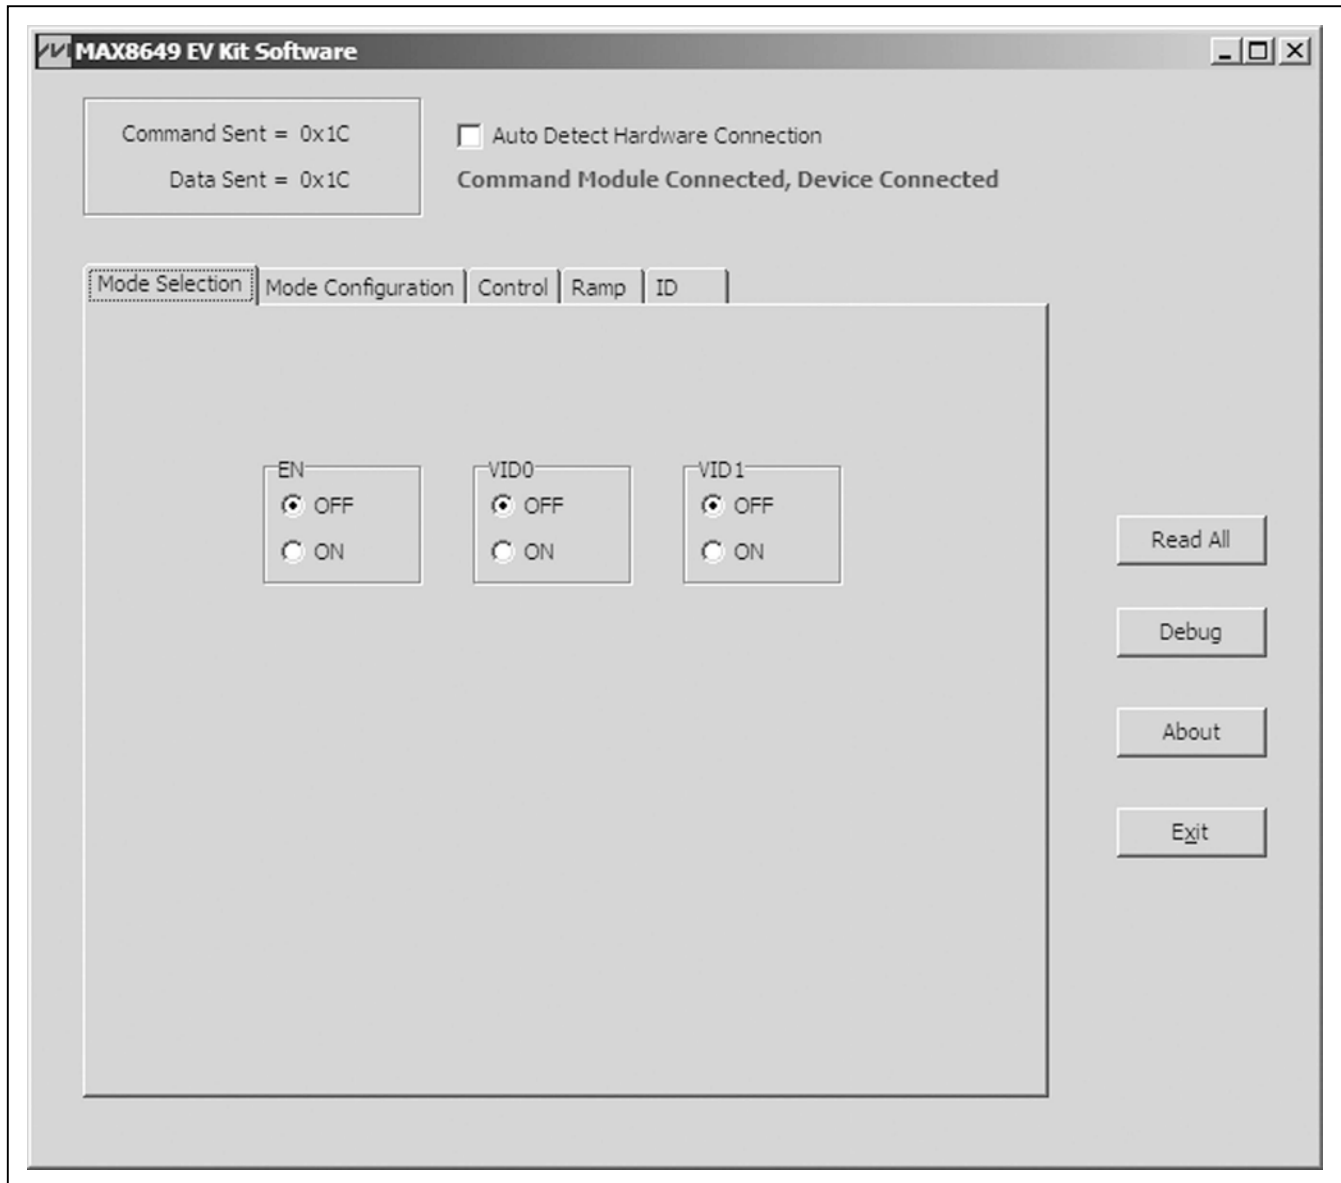
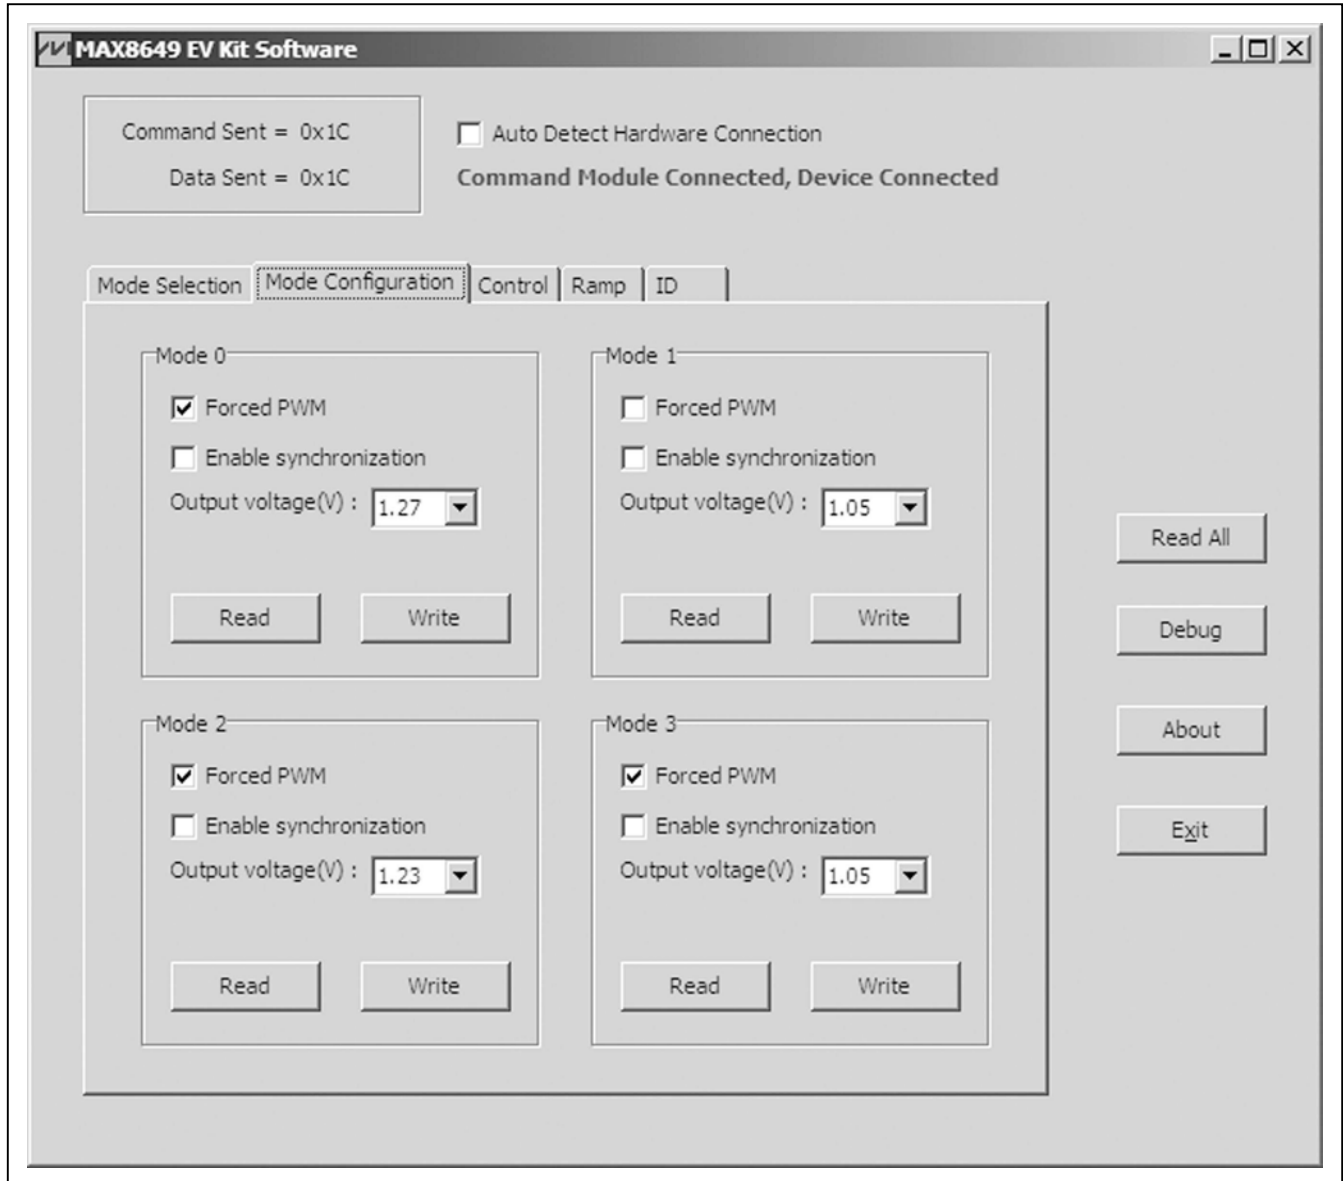
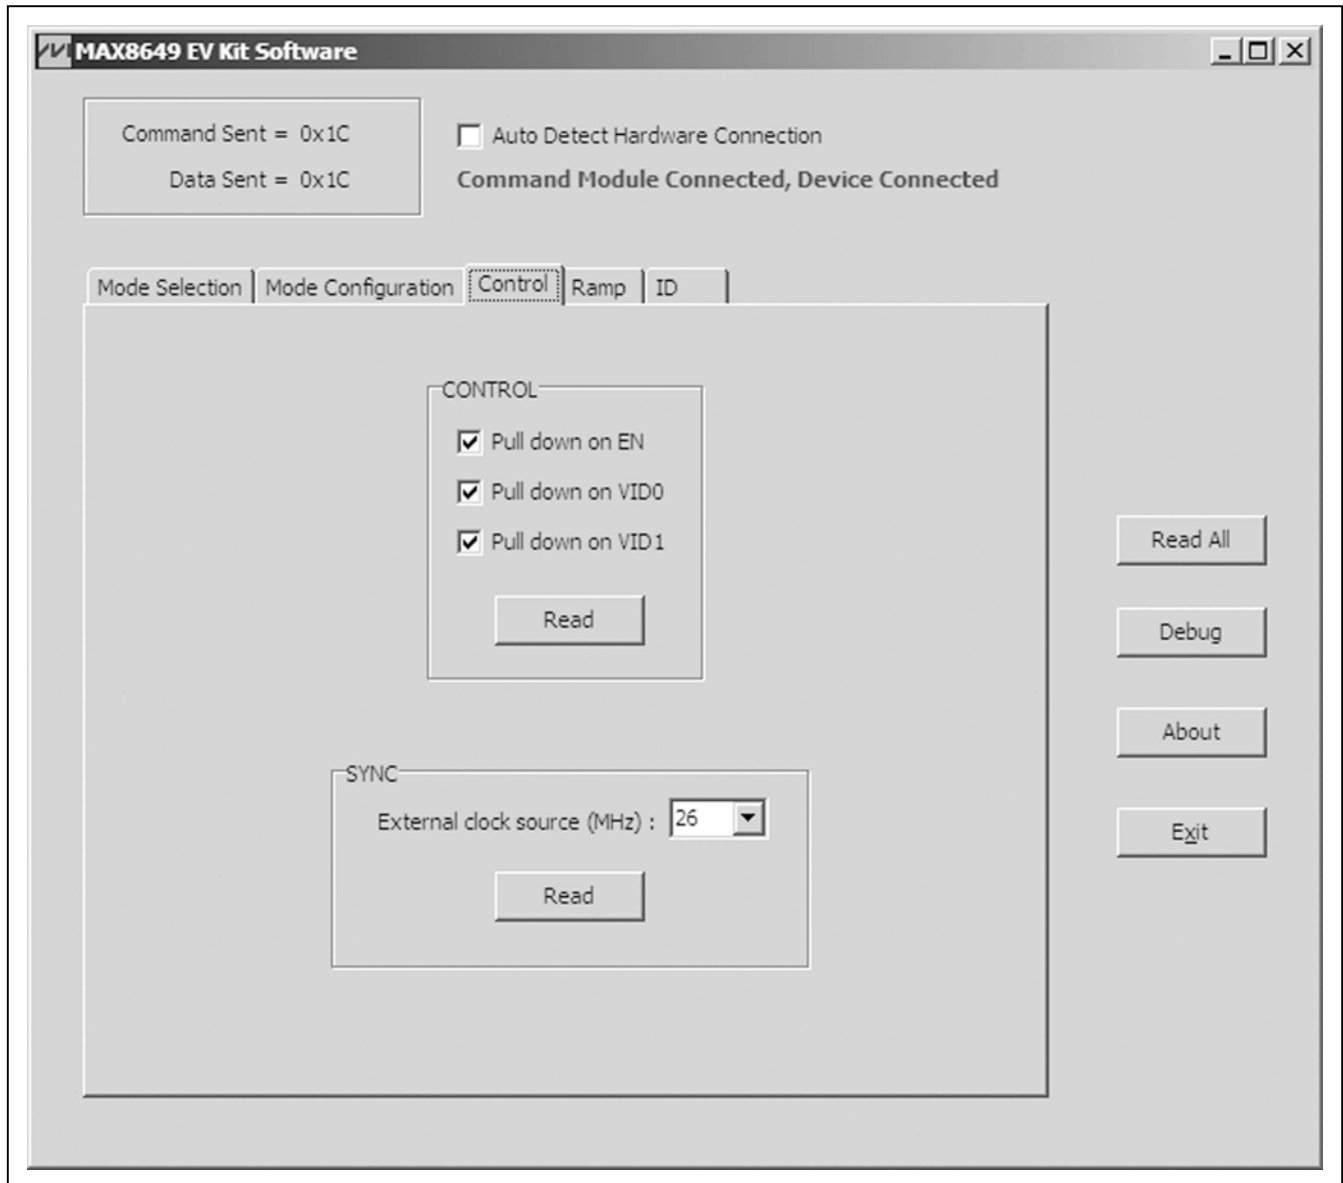

Figure 1. MAX8649 Evaluation Kit Software Main Window (Mode Selection Tab)
Figure 2. MAX8649 Evaluation Kit Software Main Window (Mode Configuration Tab)
Figure 3. MAX8649 Evaluation Kit Software Main Window (Control Tab)
- 3) Select the **Mode Configuration** tab (Figure 2). In the **Mode 0** group box, select the desired output voltage from the **Output voltage(V)** drop-down list.
Jumpers JU1, JU2, and JU3 control the EN, VID0, and VID1 signals (see Table 1). When software control is selected by connecting pins 1-3 of these jumpers, the corresponding signals are controlled by the EV kit software (see Figure 1). Note that jumper JU6 connects power (from IN) to circuitry controlling the EN, VID0, and VID1 signals. JU6 must be connected when using the software to control these signals. When measuring quiescent current of the IC, JU6 should be removed and the EN, VID0, and VID1 signals set high or low with JU1, JU2, and JU3.
To evaluate the external synchronization feature of the IC, connect the signal source to J3 (FSYNC). Using the software, check the **Enable synchronization** checkbox and press the **Write** button in the appropriate **Mode** \_ group box in the **Mode Configuration** tab (see Figure 2). Select the signal frequency from the **External clock source (MHz)** drop-down list in the **SYNC** group box in the software **Control** tab shown in Figure 3.
- 1) In the EV kit software, select the **Mode Selection** tab and click on the **ON** radio button in the **EN** group box (Figure 1).
On startup, the software automatically tries to detect the MAX8649 EV kit. If the EV kit is not connected or not powered, **Command Module not found, keep trying to connect?** is displayed (Figure 3). Selecting **No** puts the software in demo mode, where all options can be viewed without communicating with the IC. To connect to the IC from demo mode, check the **Auto Detect Hardware Connection** checkbox. The software GUI is organized into five tabs: **Mode Selection**, **Mode Configuration**, **Control**, **Ramp**, and **ID** (Figures 1–5).
The **Mode Selection** tab sheet (Figure 1) controls the three digital inputs to the IC (EN, VID0, and VID1). To use the software to control these signals, jumper JU6 must be installed and pins 1-3 of jumpers JU1, JU2, and JU3 connected on the EV kit. Using JU1, JU2, and JU3 to set these signals high or low overrides the setting in the software. VID0 and VID1 set the mode used in the **Mode Configuration** tab. Set VID0 and VID1 to off for mode 0, VID0 on and VID1 off for mode 1, VID0 off and VID1 on for mode 2, or VID0 and VID1 on for mode 3.
The **Mode Configuration** tab sheet (Figure 2) controls the output voltage, forced PWM, and synchronization for each of the four VID modes. The active mode is set in the **Mode Selection** tab or with jumpers JU2 and JU3 on the EV kit.
The software **Control** tab sheet (Figure 3) provides controls to enable or disable the internal pulldown resistors on the digital inputs (EN, VID0, and VID1), and sets the frequency of the external clock (used when synchronization is selected in the **Mode Configuration** tab).